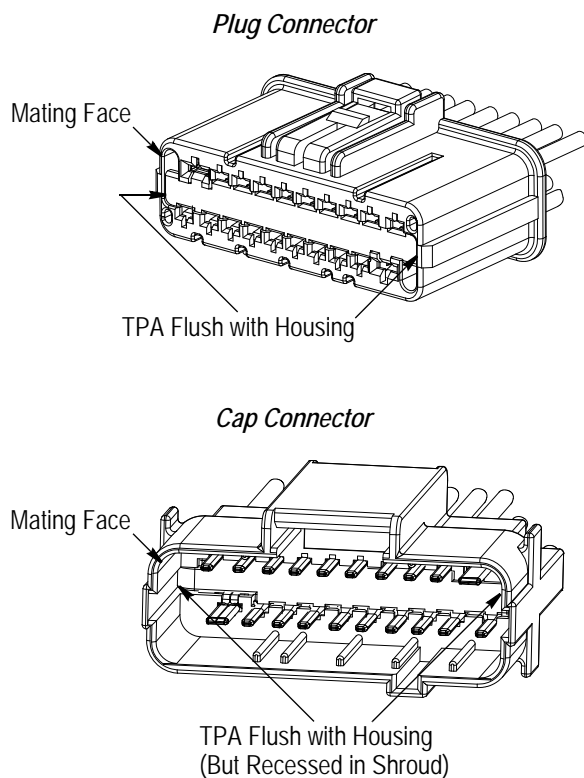

Figure 3
4. After all terminals are inserted, push the TPA into the housing until it stops. The TPA should be flush with the housing (CLOSED position). See Figure 3.